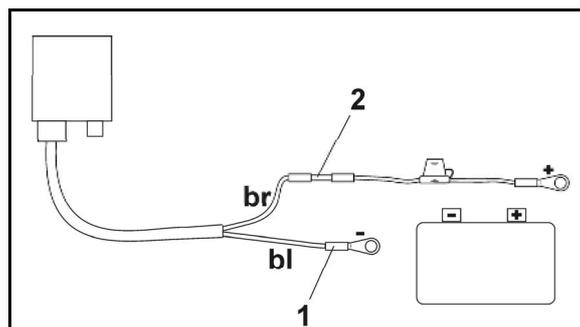

Fig. 18
2. Withdraw the two hinge pins (Fig. 18/1).
5. Insert the blue cable core (earth) into the ring lug (Fig. 18/1).
7. Insert brown cable core (+ 12 volts) into free end of connector (Fig. 18/2).
9. Shrink-fit connector (Fig. 18/2) with heat source (lighter or hairdryer) until the adhesive emerges.